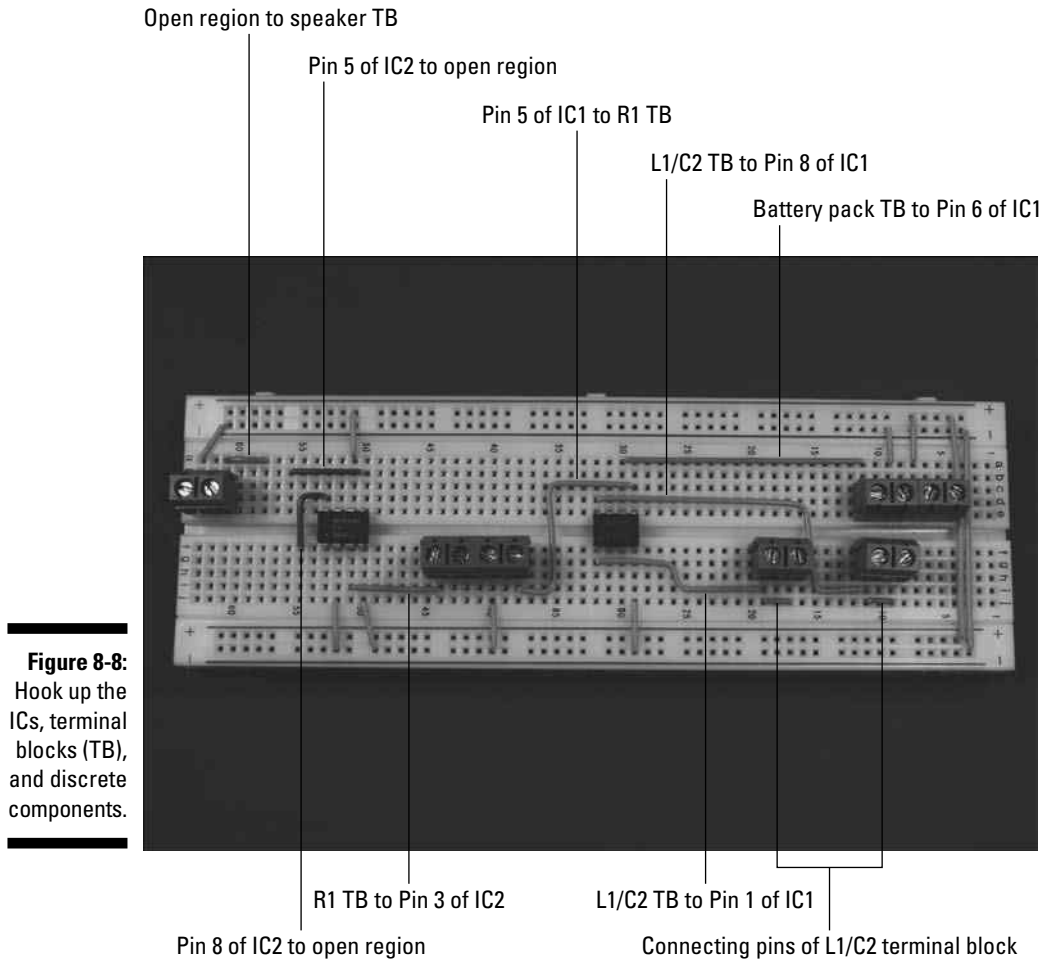

Figure 8-8: Hook up the ICs, terminal blocks (TB), and discrete components.
4. Insert wires to connect the ICs, terminal blocks for the coil (L1), variable capacitor (C2) and terminal blocks for the potentiometer (R1), and terminal block for the speaker and discrete components, as shown in Figure 8-8.